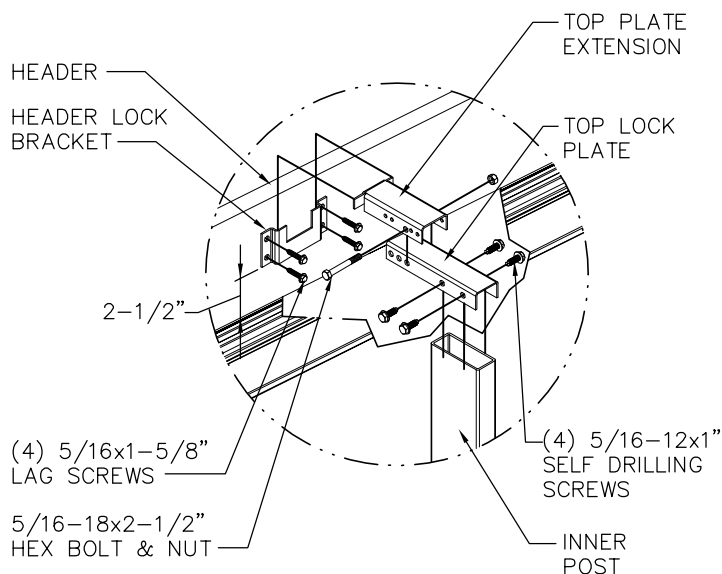

FIGURE 1
ATTACH THE HEADER LOCK BRACKET TO THE HEADER USING THE (4) 5/16"x1-5/8" LAG SCREWS PROVIDED AS SHOWN IN FIGURE 1. THE HEADER LOCK BRACKET SHOULD BE IN LINE WITH THE INTERMEDIATE HINGES WHERE THE POST IS TO BE INSTALLED AND LOCATED SUCH THAT THE BOTTOM OF THE BRACKET IS APPROXIMATELY 2-1/2" ABOVE THE TOP OF THE DOOR.
ATTACH THE HEADER LOCK BRACKETS TO THE HEADER USING THE (4) 5/16"x1-5/8" LAG SCREWS PROVIDED EACH AS SHOWN IN FIGURE 1. THE HEADER LOCK BRACKETS SHOULD BE IN LINE WITH THE MEASUREMENT GIVEN ON THE WINDLOAD SPECIFICATION OPTION CODE DRAWING AND LOCATED SUCH THAT THE BOTTOM OF THE BRACKETS ARE APPROXIMATELY 2-1/2" ABOVE THE TOP OF THE DOOR. REFERENCE WINDLOAD SPECIFICATION OPTION CODE DRAWING FOR DIMENSIONS OFF THE CENTER LINE OF THE DOOR.
ALIGN THE LARGE DIAMETER HOLE IN THE TOP PLATE EXTENSION WITH THE THIRD HOLE IN THE TOP LOCK PLATE AS SHOWN IN FIGURE 1 AND BOLT TOGETHER WITH (1) 5/16-18x2-1/2" HEX BOLT AND NUT. ALIGN THE ASSEMBLY OVER THE TOP OF THE INNER POST AND SECURE WITH (4) 5/16-12x1" SELF DRILLING SCREWS THROUGH THE HOLES PROVIDED IN THE TOP LOCK PLATE. SLIDE THE OPPOSITE END OF THE INNER POST INTO ONE END OF THE OUTER POST.